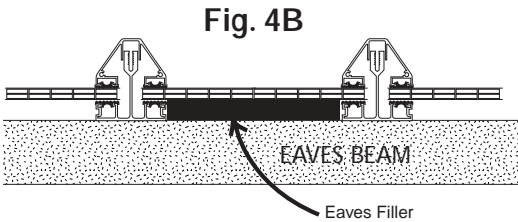

Fig. 4B
Step 4: Fit eaves filler (Ref. 285F) at the eaves end. This fills the gap between the underside of the sheet and the top of the support structure (Fig. 4B). If other materials are being used as a wall plate and/or eaves beam, please use barrier tape to avoid electrolyte corrosion between the 280 glazing bar and the wall plate and/or eaves beam.